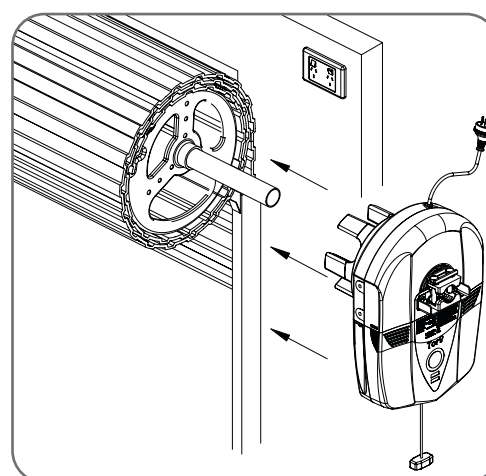

Fig 6.2
- b. Slide the opener over the door axle and into the drum of the door (**Fig. 6.2**).